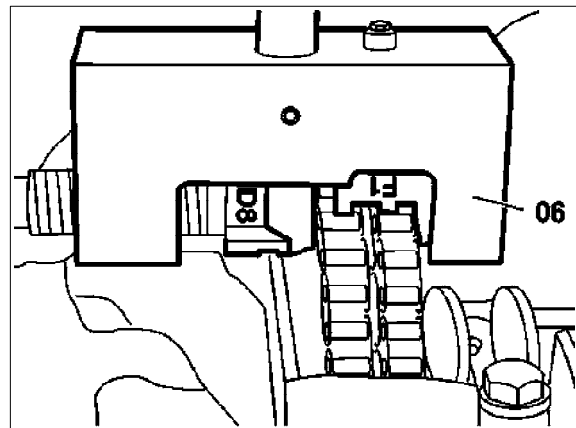

Figure 9
22. Attach riveting inserts (D8 and F1) into link assembly tool (06, Figure 9).
23. Insert outer connecting link plate into link assembly tool (06). Outer connecting link plate will be held in place magnetically by link assembly tool. Press outer connecting link plate onto timing chain using mandrel.
24. In order to rivet the timing chain connecting link pins, rotate swaging jaw (D8, Figure 9). Then by turning mandrel carefully rivet the timing chain connecting link pins.